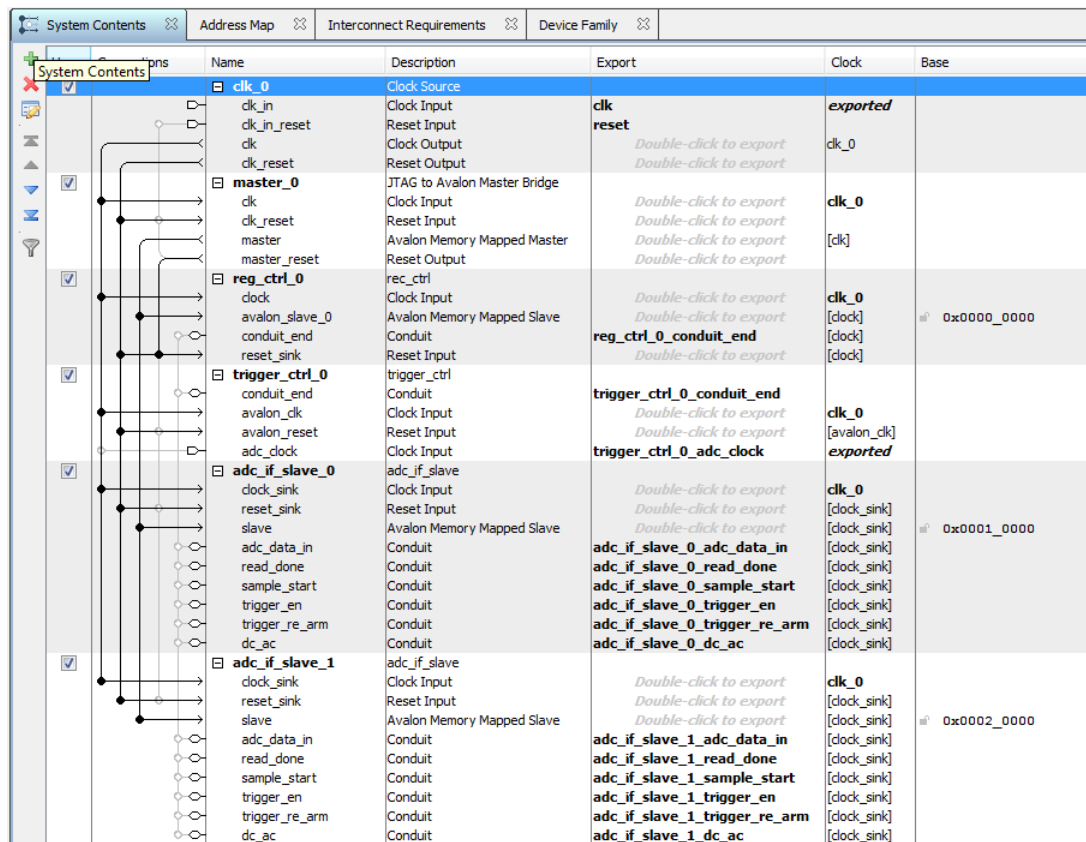

Figure 3-10: Qsys Interconnect Diagram
The Main logic design is implemented in the Altera Qsys system integration tool. The Qsys system integration tool saves significant time and effort in the FPGA design process by automatically generating interconnect logic to connect intellectual property (IP) functions and subsystems. Figure 3-10 shows the Qsys system for the BeScope Oscilloscope.